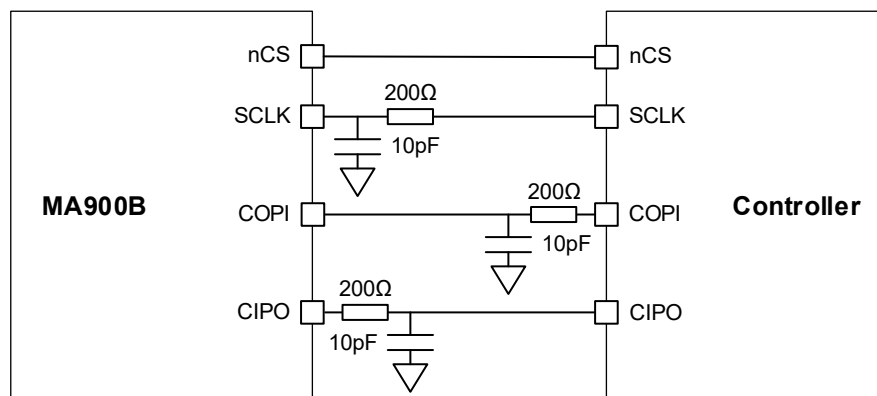

Figure 67: Examples of RC Low-Pass Filters on the SPI Signals
- Insert an RC low-pass filter on SCLK (see Figure 67 on page 57) close to the sensor. It is recommended to use a 200 Ω serial resistor with a 10pF capacitor to GND (80MHz cutoff frequency).
- Insert RC low-pass filters on the CIPO and COPI signals (see Figure 67). The RC filter on COPI must be located close to the controller, while the filter on CIPO must be located close to the sensor. It is recommended to use a 200Ω resistor with a 10pF capacitor.